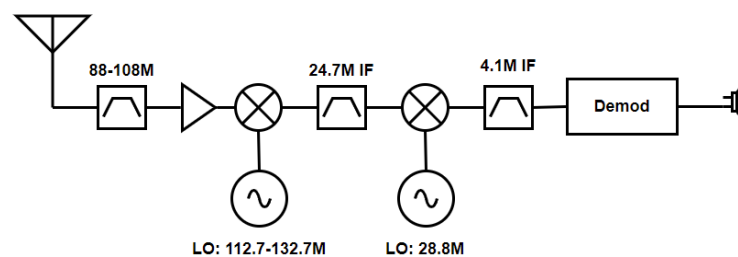

Figure 1 - Double Conversion (Superhet) Receiver
Figure 1 shows a receiver utilizing two mixers to select, amplify and demodulate an RF signal. An RF input signal 24.7 MHz below the Local Oscillator (LO) will create an LO-RF signal, intermediate Frequency or IF at 24.7 MHz which passes through the second bandpass filter. Frequencies 24.7 MHz above the LO (RF-LO), also called *image* frequencies, would also create a 24.7 MHz IF signal, but these are rejected by the 88 to 108 MHz bandpass filter. The first IF frequency of 24.7 MHz was chosen to be high enough to allow for the 88-108 MHz bandpass filter to reject that image. The second mixer stage reduces the signal frequency further so it can be processed by the demodulator section.